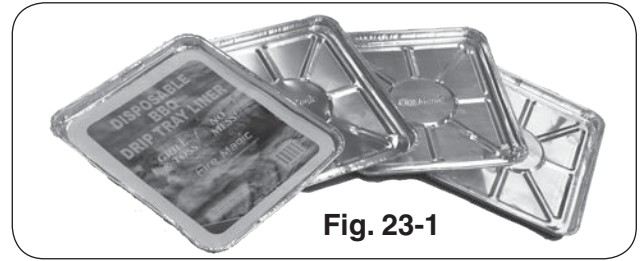

Fig. 23-1
Your grill includes a pack of four (4) Fire Magic® drip tray liners (Fig. 23-1). For your convenience in cleanup, place a liner into the drip tray (gas grill side only) before grilling.